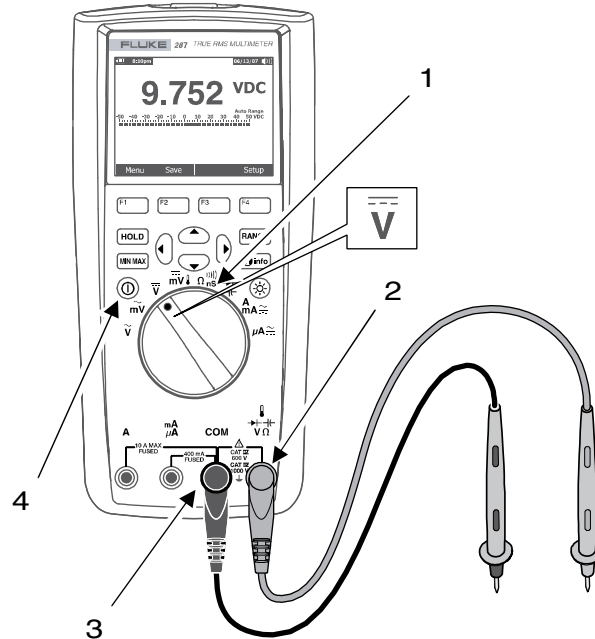

Figure 2. DC Voltage Mode
1. Insert the black test lead into the COM terminal (Figure 2., Item 3).
2. Insert the red test lead into the volts/resistance terminal (Figure 2., Item 2).
3. Press the On/Off button (Figure 2., Item 4) to turn the multimeter on.
4. Position the rotary switch (Figure 2., Item 1) to the $\overline{\text{V}}$ (regular voltage checks) or $\overline{\text{mV}}$ (very low voltage checks) position. The multimeter is ready to take standard DC voltage readings.